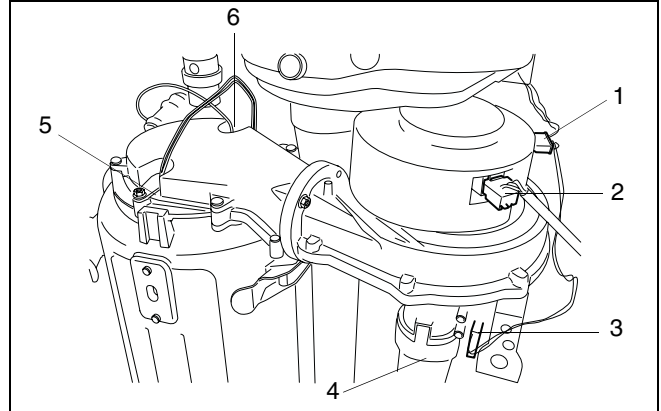

fig. 51 Remove plugs of the gas air unit
- Remove the plugs (see fig. 51, item 1, 2 and 3) from the gas air unit.
- Remove the air suction tube from the gas air unit (see fig. 51, item 4).
- Then remove the plugs of the ionisation electrode (fig. 51, item 6) and the glow ignitor (fig. 51, item 5).